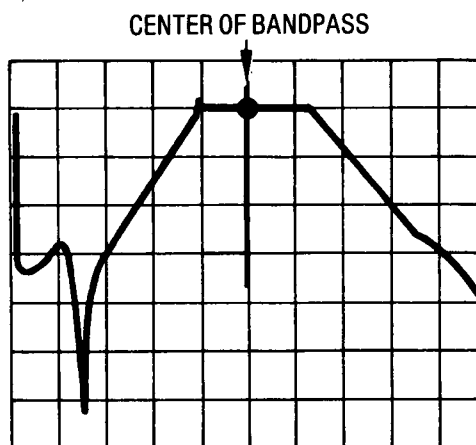

Figure 5-29. YTF Passband Response
13. Set the Signal Generator to 6 GHz and Normal mode. Adjust A5A7R69, B1 LO, to center the YTF passband response, as in Figure 5-29.